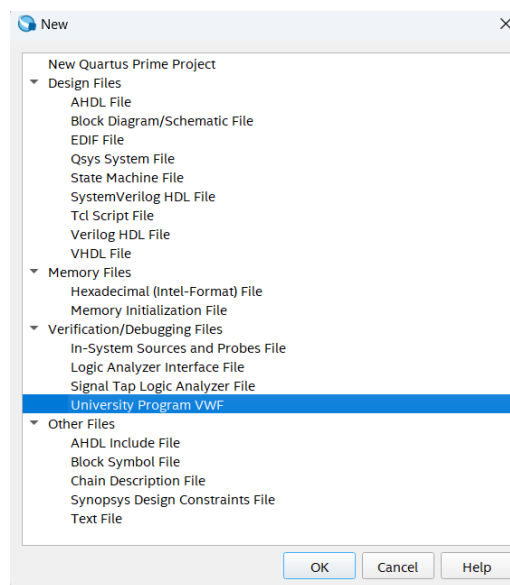

Figure 16 - Selection of file type to create (“University Program VWF”).
9. Simulate the behaviour of the logical port by creating a VWF file (“File→New” menu) according to the steps described in the following points (described in Figures 16 to 18).